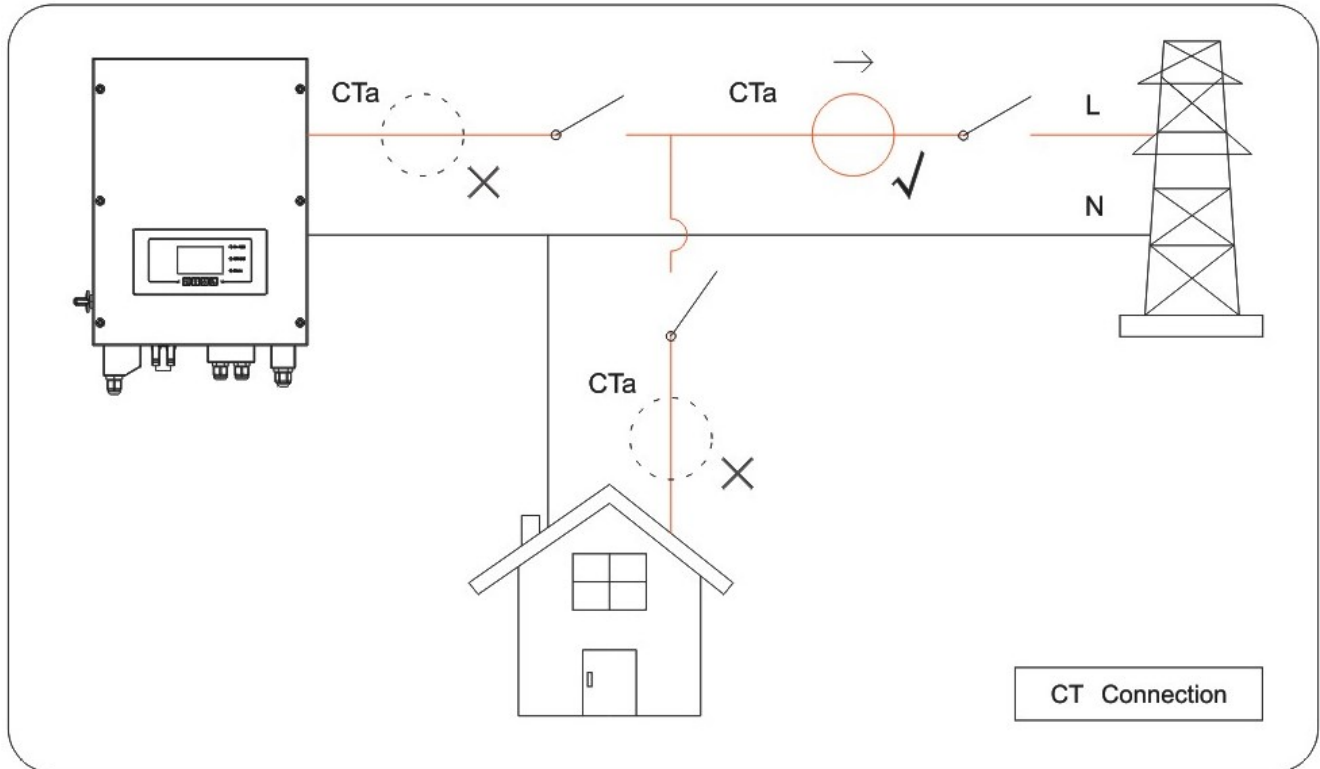

Fig. 11 CTa connection
CT (Current transformer) can measure the value and direction of AC current. Refer to Fig. 11 for the correct connection of CTa.
Step 1: Refer to Fig. 11 for correct position of CTa. Wrap the CT around L wire of incoming mains, make sure that the CT arrow direction is “home → grid”.